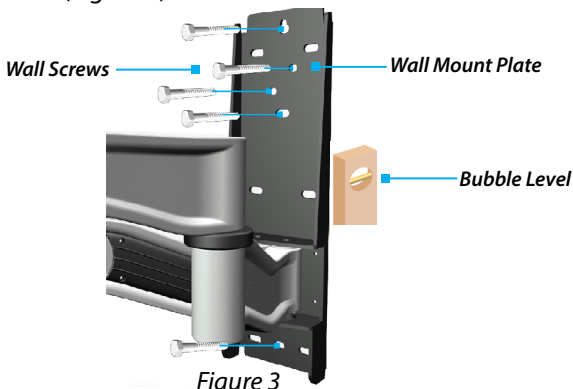

Figure 3
8. Insert the rest of the **Wall Screws** (x 4) through the **Wall Mount Plate**. Tighten all the **Wall Screws** (x 5) with the **1/2 in (13 mm) Wrench** to fasten the **TV-Wall Mount Assembly** to the **Stud**. (Figure 3)